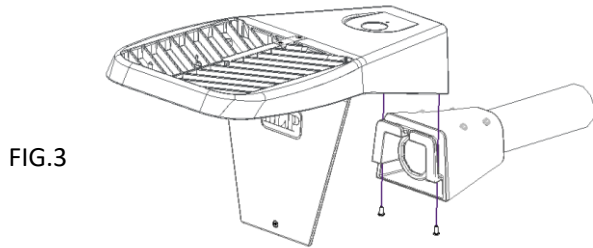
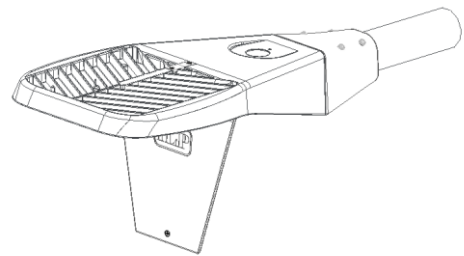

FIG.3
FIG.4
Open the driver door to the Skyline fixture and align with the HTM bracket. Slide the fixture down over the HTM bracket channel so that the fixture and bracket are flush. (FIG.3) Attach the (2) provided 8/32" screws through the HTM bracket bottom to secure the Skyline fixture. Tighten screws to 10 ft-lbs (120 in-lbs). (FIG.4)